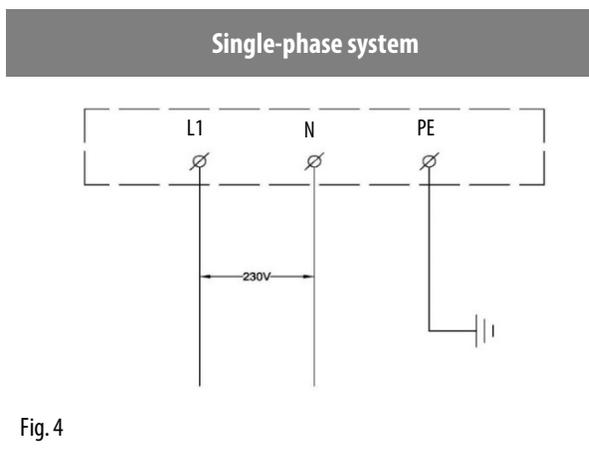

Fig. 4
- ▶ Single-phase system (Fig. 4):